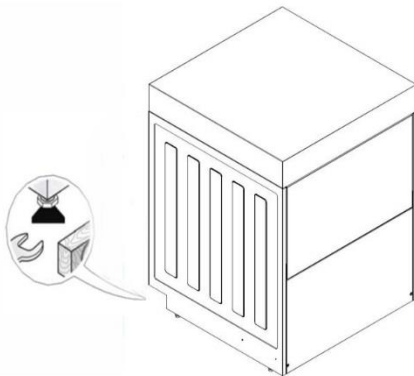

Figure 8 Adjusting Supporting Leg
- Rotate the special adjustable support leg to adjust the equipment to ensure that it is longitudinally and transversely kept in a perfect condition (Figure 8).